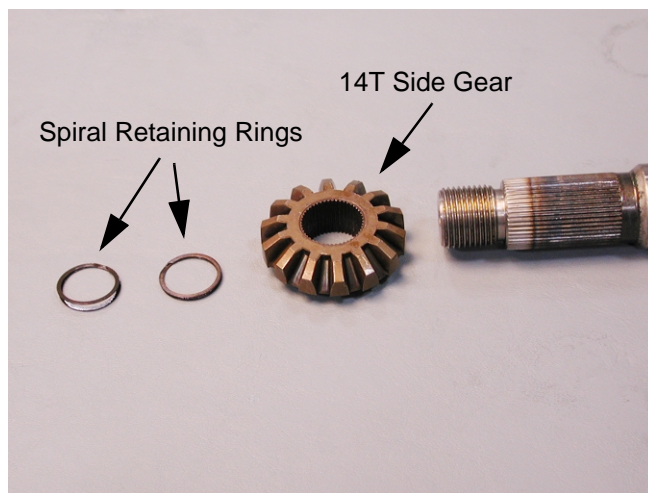

Figure 28
38. Remove both of the spiral retaining rings that secure the right axle side gear to the axle using a small flat-blade screw driver. See Figure 28.